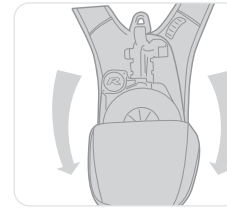

Figure 5
- Open the backpack containing the device (Figure 5).